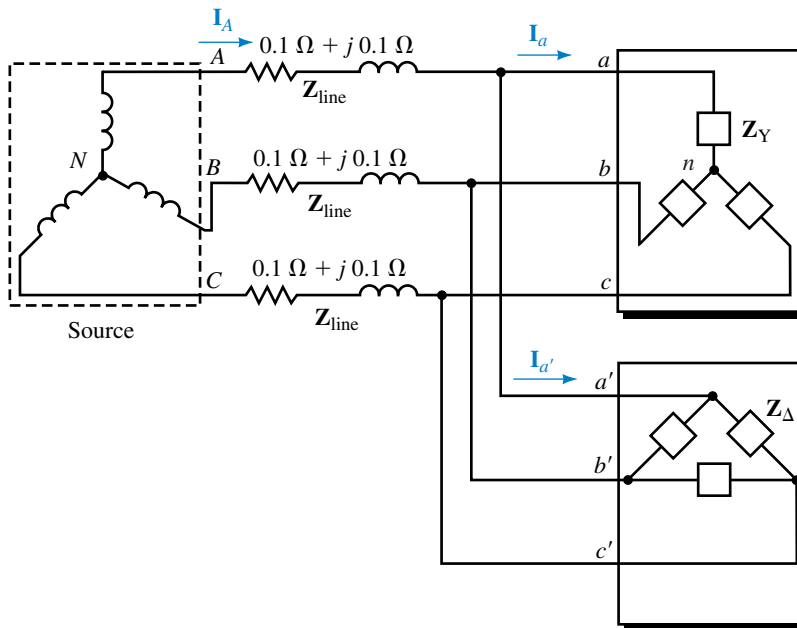

FIGURE 23-49
28. For Figure 23-49, $\mathbf{Z}_Y = 12 \Omega + j9 \Omega$ and $\mathbf{Z}_\Delta = 27 \Omega + j36 \Omega$. At the Y load, $\mathbf{V}_{an} = 120 \text{ V} \angle 0^\circ$.
30. For Figure 23-49, $Z_Y = 12\ \Omega + j9\ \Omega$ and $Z_\Delta = 36\ \Omega + j27\ \Omega$. Line current I_A is $46.2\text{ A}\angle -36.87^\circ$. Find the phase currents for both loads.
31. For Figure 23-49, $Z_Y = 15\ \Omega + j20\ \Omega$, $Z_\Delta = 9\ \Omega - j12\ \Omega$ and $I_{a'b'} = 40\text{ A}\angle 73.13^\circ$. Find Y phase voltage V_{an} , magnitude and angle.
42. For Figure 23-49, let $Z_{\text{line}} = 0\ \Omega$, $Z_Y = 20\ \Omega\angle 0^\circ$, $Z_\Delta = 30\ \Omega\angle 10^\circ$, and $E_{AN} = 120\text{ V}$.